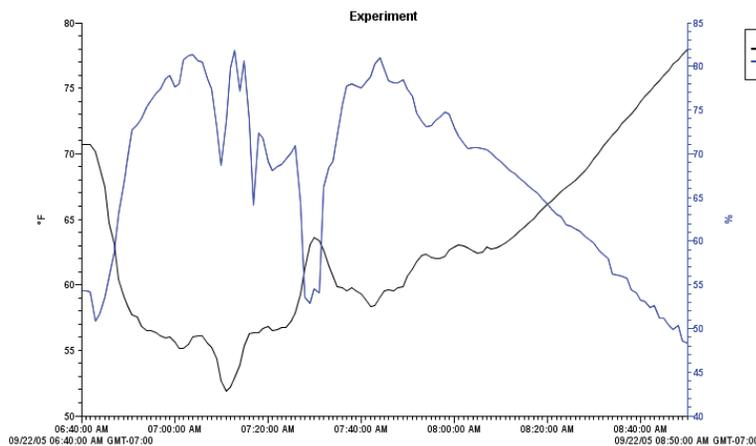

Figure 5 HOBOWare data graph
5. **A graph of the data will be displayed.** Tools on the toolbar can be used to customize the graph by zooming in and out, adding and removing data series, zeroing in on specific data points with the crosshair tool, etc. The time range for the data is displayed on the X-axis and the values for the sensor channels are displayed on the Y-axes. In **figure 5**, temperature is displayed on the left Y-axis and % relative humidity is displayed on the right Y-axis.